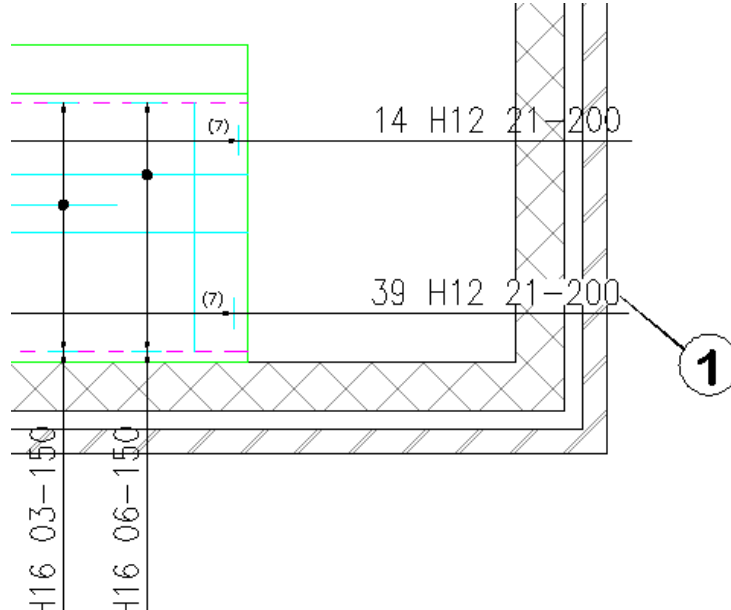

Figure 6.10.6:1 Masking of selected Bar Labels by using **Mask Text**
- The command adds a mask behind the Bar Label, as shown below in figure 6.10.6:1